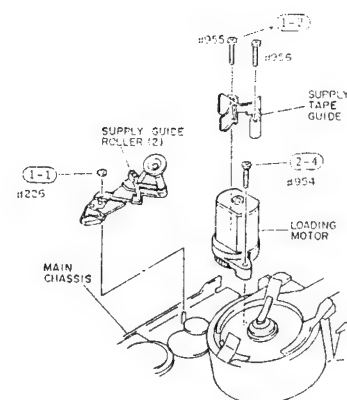

Fig. 2-65
- 1) Remove one (1) washer holding the supply guide roller (2). (See Fig. 2-65)
- 2) Remove two (2) screws holding the supply tape guide.
- 3) Remove the supply guide roller (2) and supply tape guide from the main chassis.
(2) Loading Motor
- 4) Remove one (1) screw and remove the loading motor from the main chassis. (See Fig. 2-65)